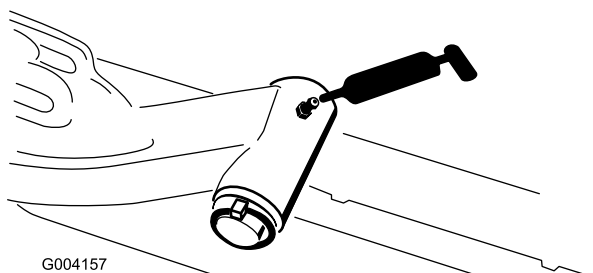

Figure 30
- Lift-arm pivot shaft (1 each) (Figure 30)